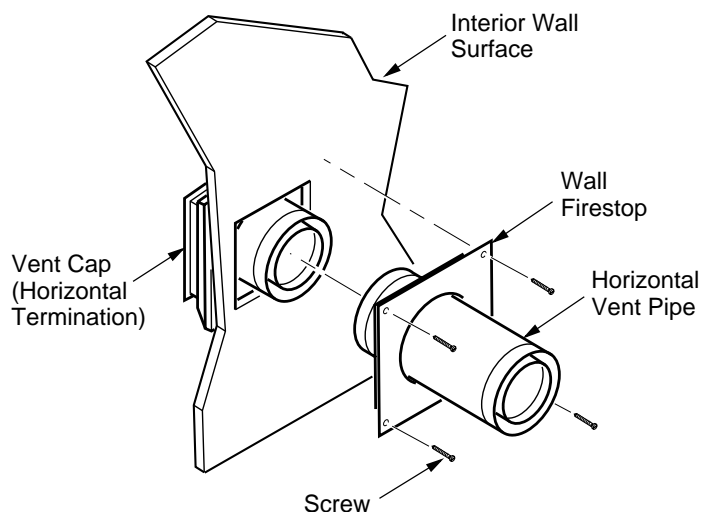
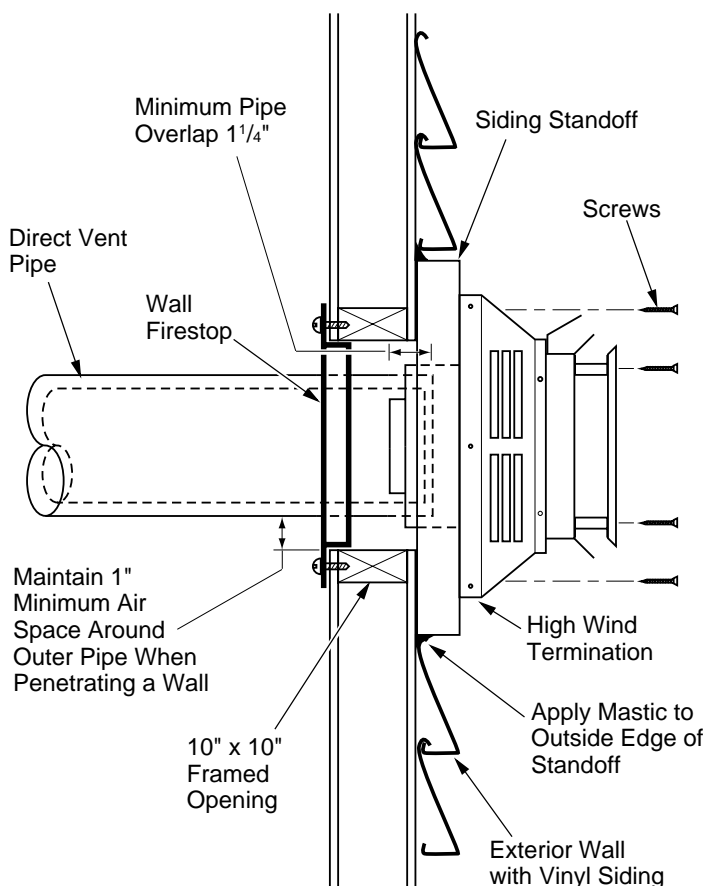

Figure 12 - Connecting Vent Cap with Horizontal Vent Pipe
Figure 13 - Typical Horizontal Termination Cap Mounting with Additional Siding Standoff Installed
7. **Combustible Exterior Wall Only:** Slide the wall firestop over the vent pipe before connecting horizontal run to vent cap (see Figure 12).
9. **Combustible Exterior Wall Only:** Slide wall firestop against interior wall surface and attach with screws provided (see Figure 12). See Figure 13, page 10 for horizontal termination details.